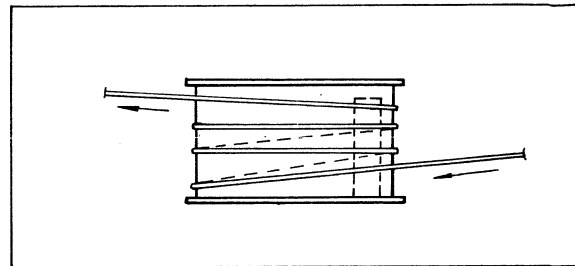

Fig. 2-10 Wrapping the dial cord
2. Run the cord through the slot in the rim of the drum and wrap a half counterclockwise turn in the inner groove. See Fig. 2-10.
groove as shown in Fig. 2-10.